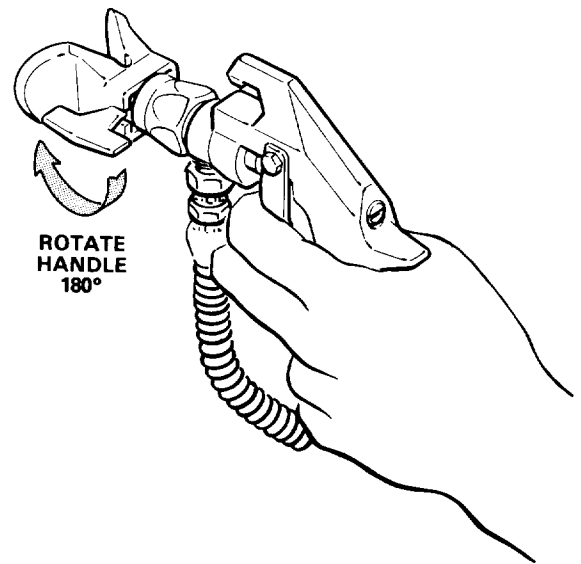

Fig 7
- If the spray tip does clog, release the gun trigger, engage the gun safety, and rotate the spray tip handle 180°. See Fig 7.